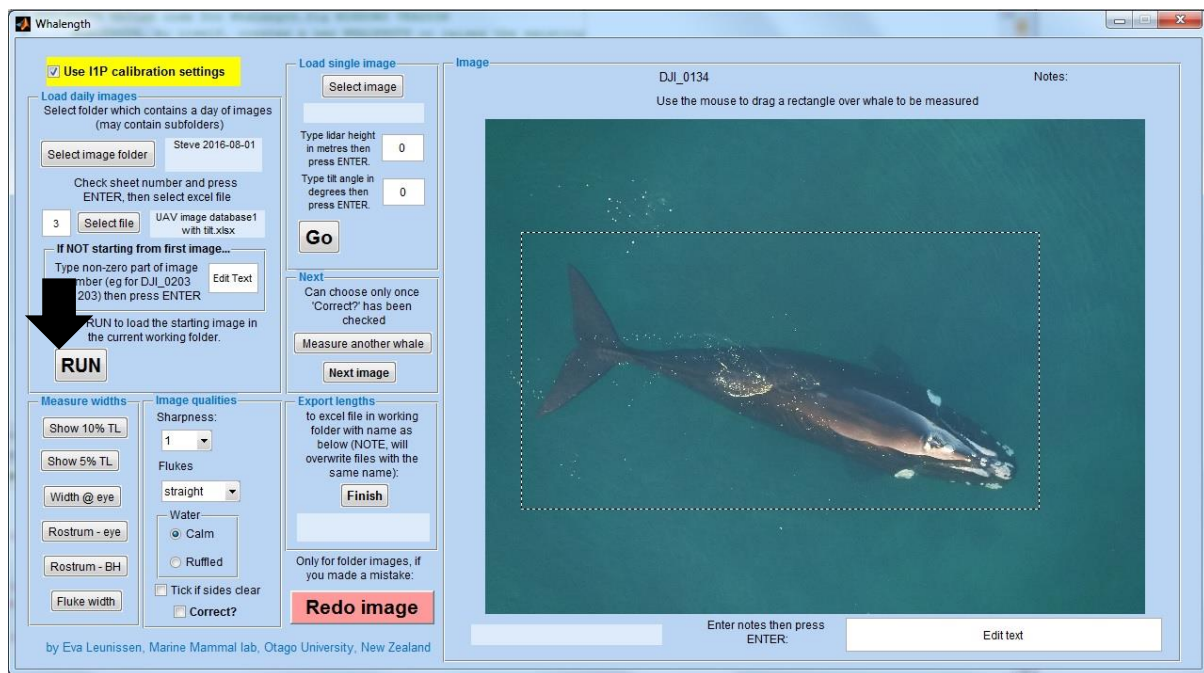

Figure 7. Use mouse to drag a rectangle around the whale
3. If the folder, Excel file and sheet number are all correct hit 'RUN' - this will bring up the first image and a cross in place of the mouse pointer - use it to drag a rectangle around the whale, make sure to include the entire whale (Fig. 7). The image will zoom in to this rectangle (Fig. 8), the mouse pointer will remain a cross (there were visibility issues with the crosshairs, used in previous versions of the program, on some screens).